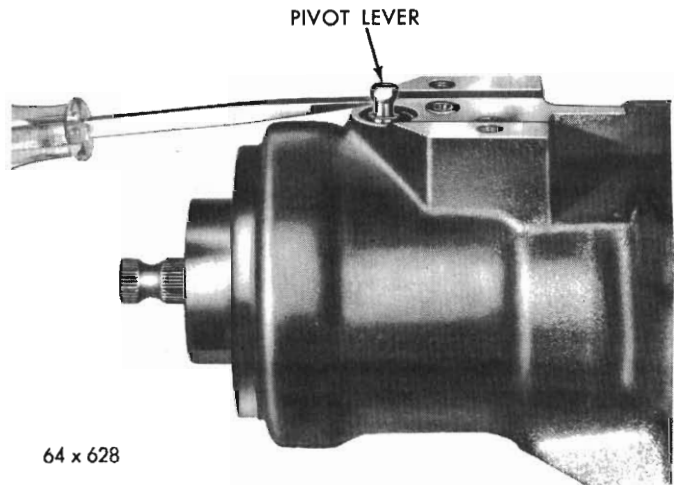

Fig. 9 – Removing pivot lever
(3) Remove the pivot lever and spring. Pry under the spherical head with a screwdriver (Fig. 9).